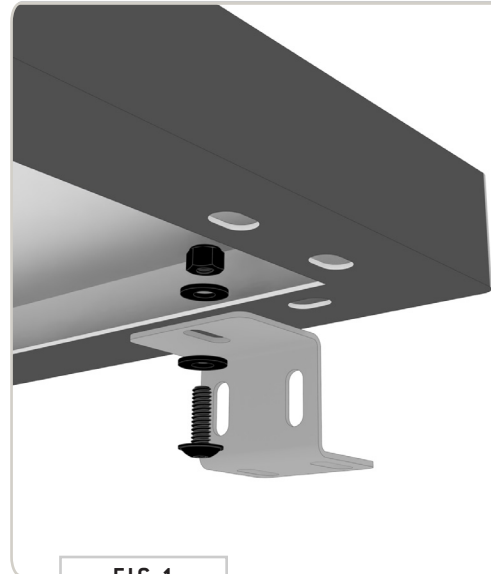

FIG 1
1.2 Attach Mounting Brackets to Solar Panel: Loosely attach Solar Panel to Mounting Brackets using a **1/4-20" Screw**, **two 1/4" Flat Washers** and a **Nylon Locknut** as shown in **FIG 1**.